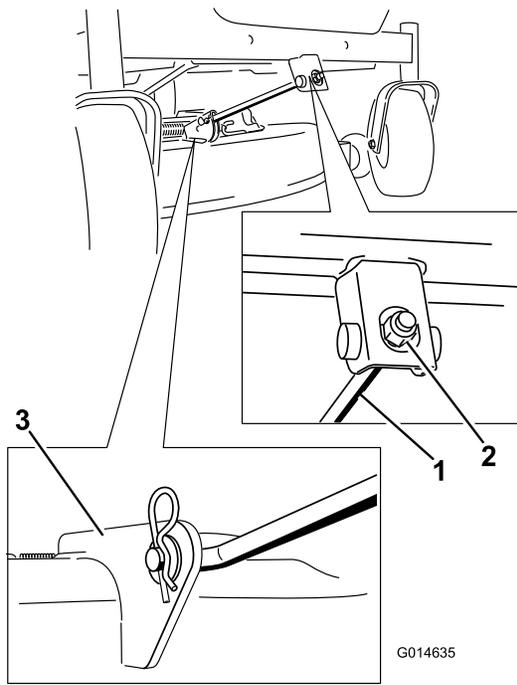

Figure 54
4. Remove the hairpin-cotter pin from the front support rod, and remove the rod from the deck bracket (Figure 54).
6. Attach the front support rod to the mower deck with the clevis pin and hairpin-cotter pin (Figure 54).